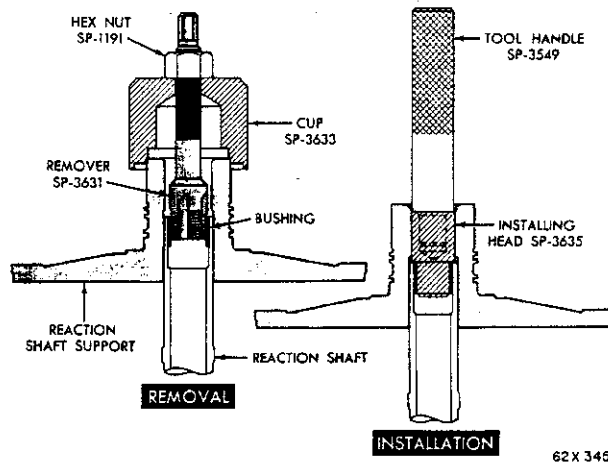

Fig. 84—Removing the Reaction Shaft Bushing—TorqueFlite Six
(2) With the cup held firmly against the reaction shaft, thread the remover into the bushing as far as possible by hand (Fig. 84).
(3) Using a wrench, screw the remover into the bushing 3 to 4 additional turns to firmly engage the threads in the bushing.
(4) Turn the hex nut down against the cup to pull the bushing from the reaction shaft. Thoroughly clean the reaction shaft to remove the chips made by the remover threads.
(5) Lightly grip the bushing in a vise or with pliers and back the tool out of the bushing. Be careful not to damage the threads on the bushing remover.
(6) Slide a new bushing on the installing head Tool SP-3635, and start them in the bore of the reaction shaft.
(7) Support the reaction shaft upright on a clean smooth surface and install the handle Tool SP-3549 in the installing head (Fig. 84). Drive the bushing into the shaft until the tool bottoms.
(8) Thoroughly clean the reaction shaft support assembly before installation.